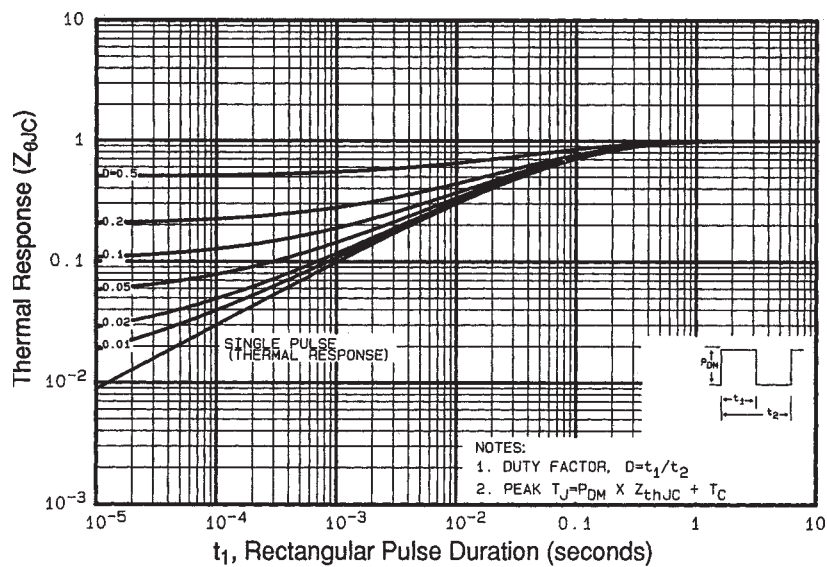

Fig 11. Maximum Effective Transient Thermal Impedance, Junction-to-Case
- ① Repetitive rating; pulse width limited by max. junction temperature. (See fig. 11)
- ② $V_{DD} = 50V$, starting $T_J = 25^\circ\text{C}$, $L = 2.7mH$